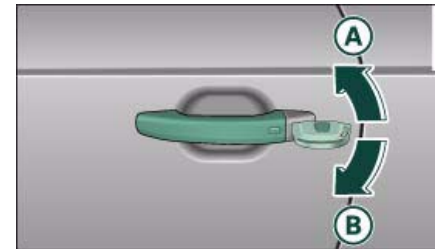

Fig. 40 Lock on driver's door
- Turn the key to position **A** ⇒ fig. 40 to unlock the vehicle. ▶